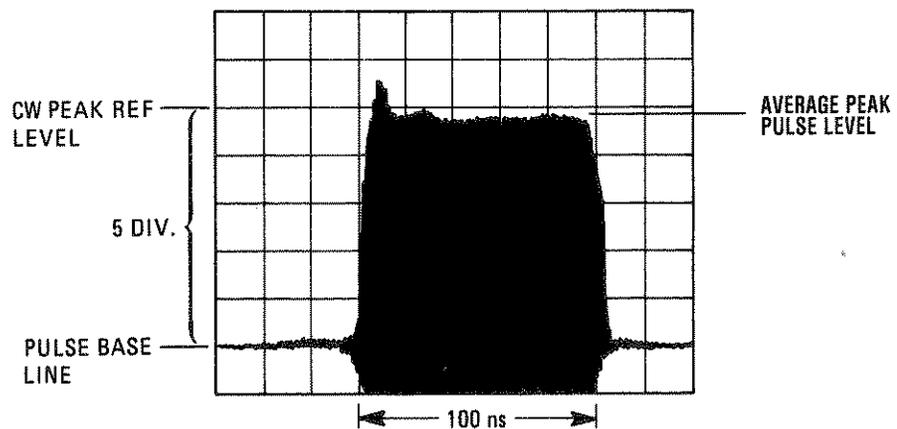

Figure 4-6. Pulse Peak Level Accuracy Measurement
9. Switch back to PULSE NORM. The display should be as shown in Figure 4-6. Measure the difference between the CW peak reference level and the average peak pulse level excluding any over/undershoot. Record the peak level accuracy.